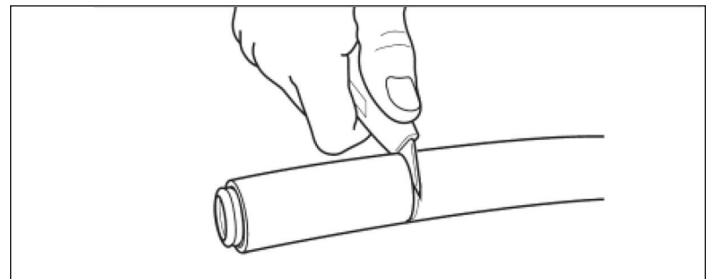

Figure: 1-3
5. Finish cutting through the jacket down to the stainless-steel corrugated tubing using a sharp utility knife (Figure 1-3).